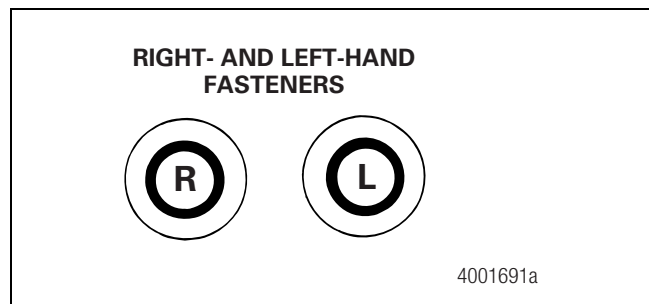

Figure 13.39
3. Check for **R** and **L** stamped in the end of the stud. Figure 13.39. Install right-hand studs onto the right side of the vehicle, and left-hand studs onto the left side of the vehicle.